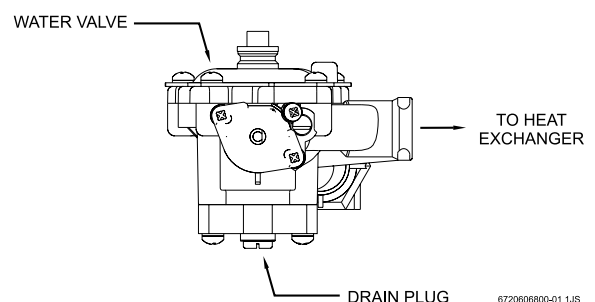

Fig. 1 - Water heater drain plug
**⚠ WARNING: DO NOT INSTALL IN AN AREA WHERE IT COULD FREEZE. This heater is neither designed for nor approved for outside installation.** Drain the heater entirely if freezing temperatures are anticipated in area where heater is installed by disconnecting both the inlet and outlet water connections from the heater (disconnect the outlet flex line from where it connects to the copper heat exchanger). Additionally, remove the drain plug under the water valve. See Fig 1.